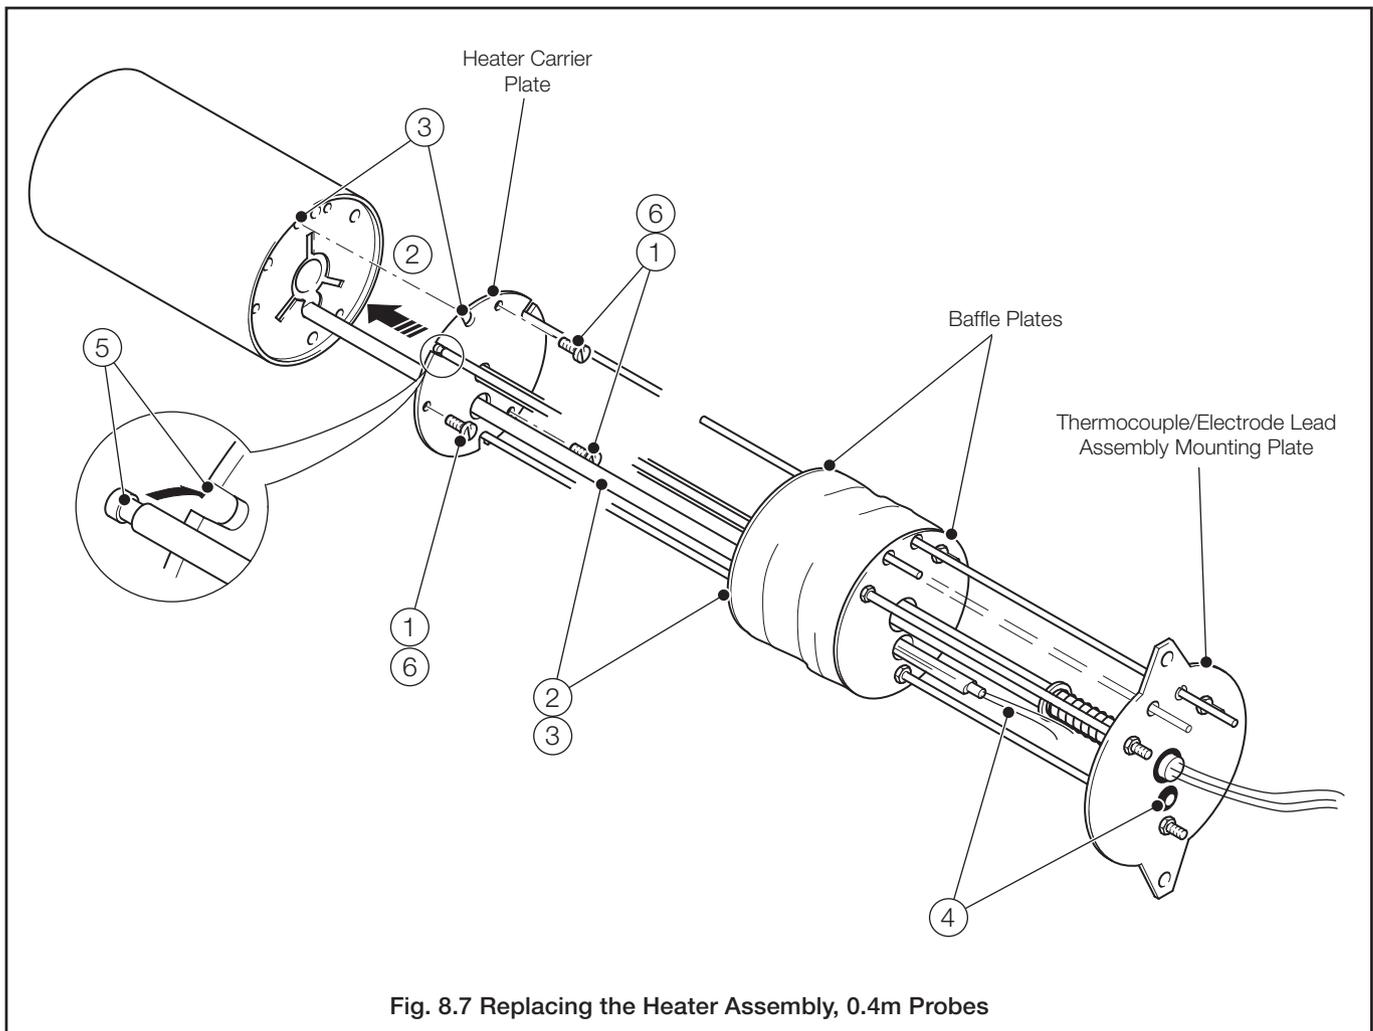

Fig. 8.7 Replacing the Heater Assembly, 0.4m Probes
8.8 Replacing the Heater Assembly (0.4m Probes) – Fig. 8.7
Referring to Fig. 8.7: